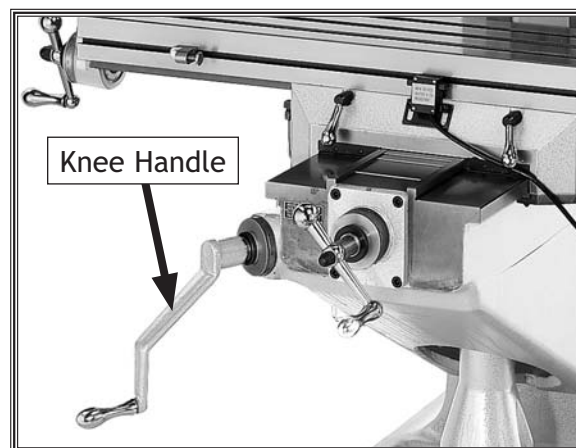

Figure 13. Knee handle installation.
1. Slide the knee handle over the shaft on the knee as shown in Figure 13.